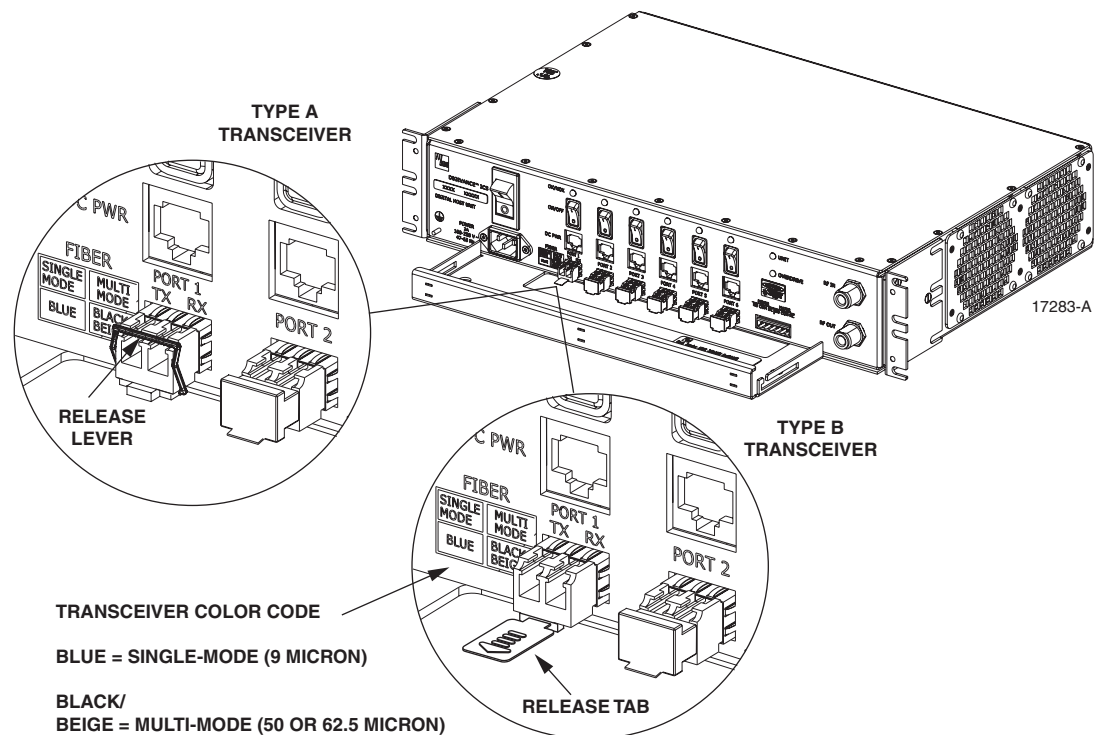

Figure 33. DHU or DEU Optical Transceiver Removal
- 5. Release the optical transceiver from the transceiver socket by pulling outward on the release lever (if type A) or release tab (if type B) as shown in Figure 33.
- 7. For replacement, select an optical transceiver that corresponds to the type of fiber (single- or multi-mode) used in the installation. The color of the transceiver corresponds to the transceiver fiber type (see Figure 33).